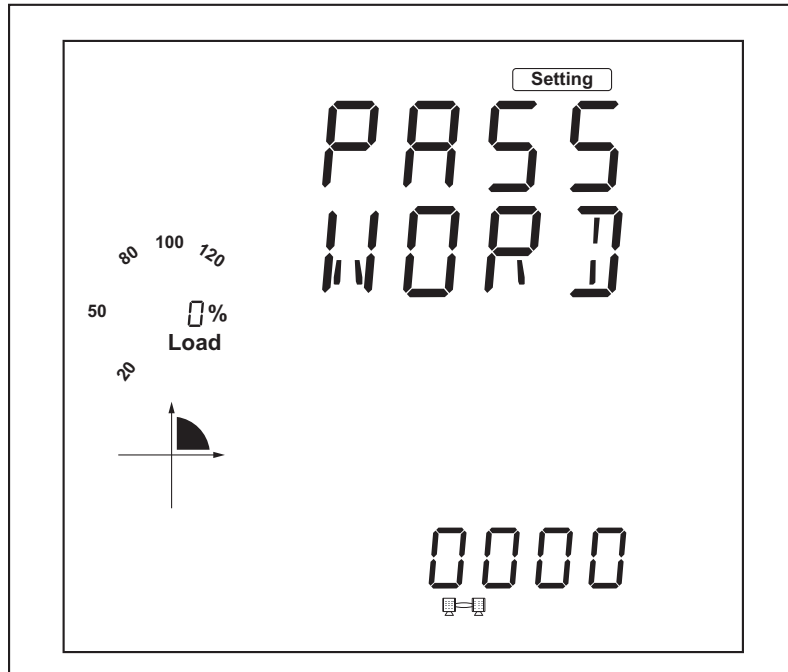

Figure 5: Entering the password
2. On the mode selection screen, press **P** repeatedly to move right until Setting mode is selected. Then, press **V/A** to confirm. The screen will briefly display **ADDR 001**, which means the meter address is 001. It will then jump to a password screen (Figure 5 on page 6).
1. The display will show **PASSWORD** as shown in Figure 5. Leave the default password as 0000 and press **V/A** to enter the parameter selection mode. The screen will be directed to the parameter settings main menu.